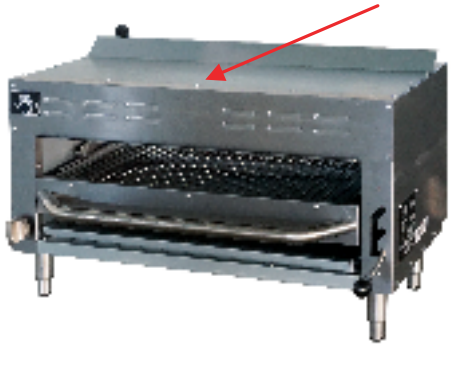

Fig.7
1. Take out the screws on the top cover, then take off the top cover, You can see the orifice is on the left side of the salamander broiler as below Fig.7 shows.